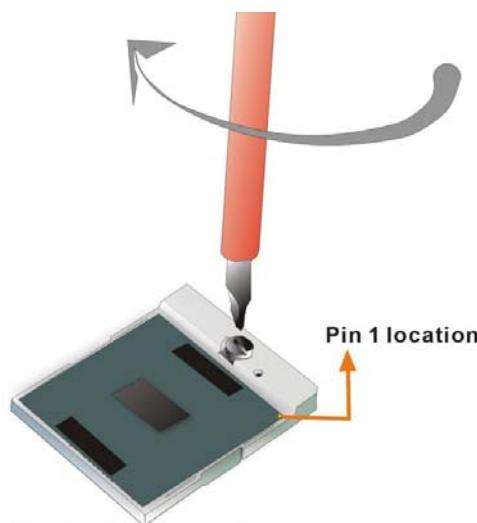

Figure 4-2: Lock the CPU Socket Retention Screw
Step 7: Lock the retention screw. Rotate the retention screw into the locked position. See **Figure 4-2**.